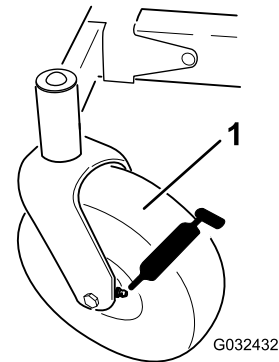

Figure 34
3. Clean the grease fittings (Figure 34) with a rag.
4. Connect a grease gun to each fitting (Figure 34).